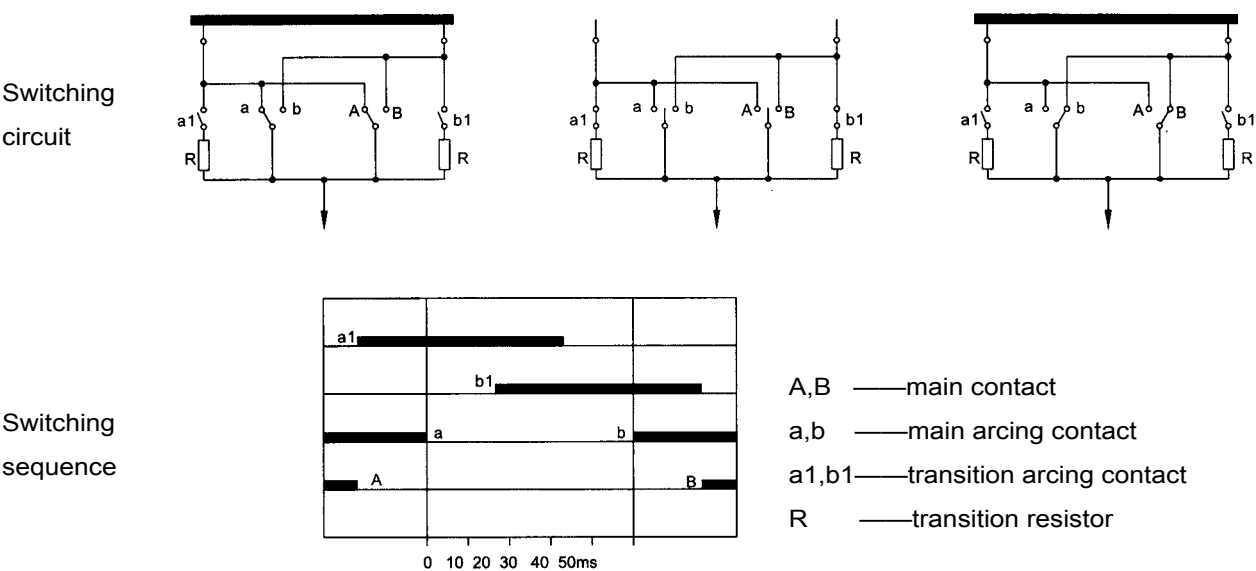

Fig. 7
6.2 Switching sequence of selector switch contacts (fig7)